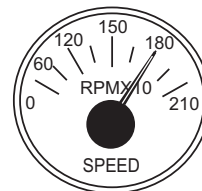

Figure 58. Engine Tachometer
11. The **tachometer** (Figure 58) will indicate the speed of the engine in **RPM**. Under normal operating conditions this speed is approximately 1,800 rpm.